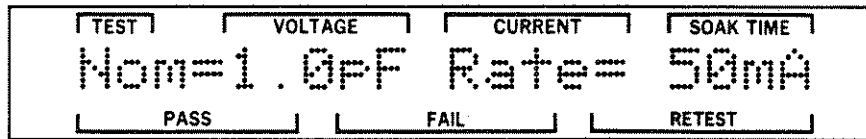

Figure 3-16. Nominal Capacitance and Charge Rate Screen
STEP 2. Press the DOWN pushbutton. The display will change to indicate the Nominal Capacitance and the Charge Rate. An example of this screen is shown in Figure 3-16. For more information, refer to Nominal Capacitance and Charge Rate Screen, Section 3.4.3.3.